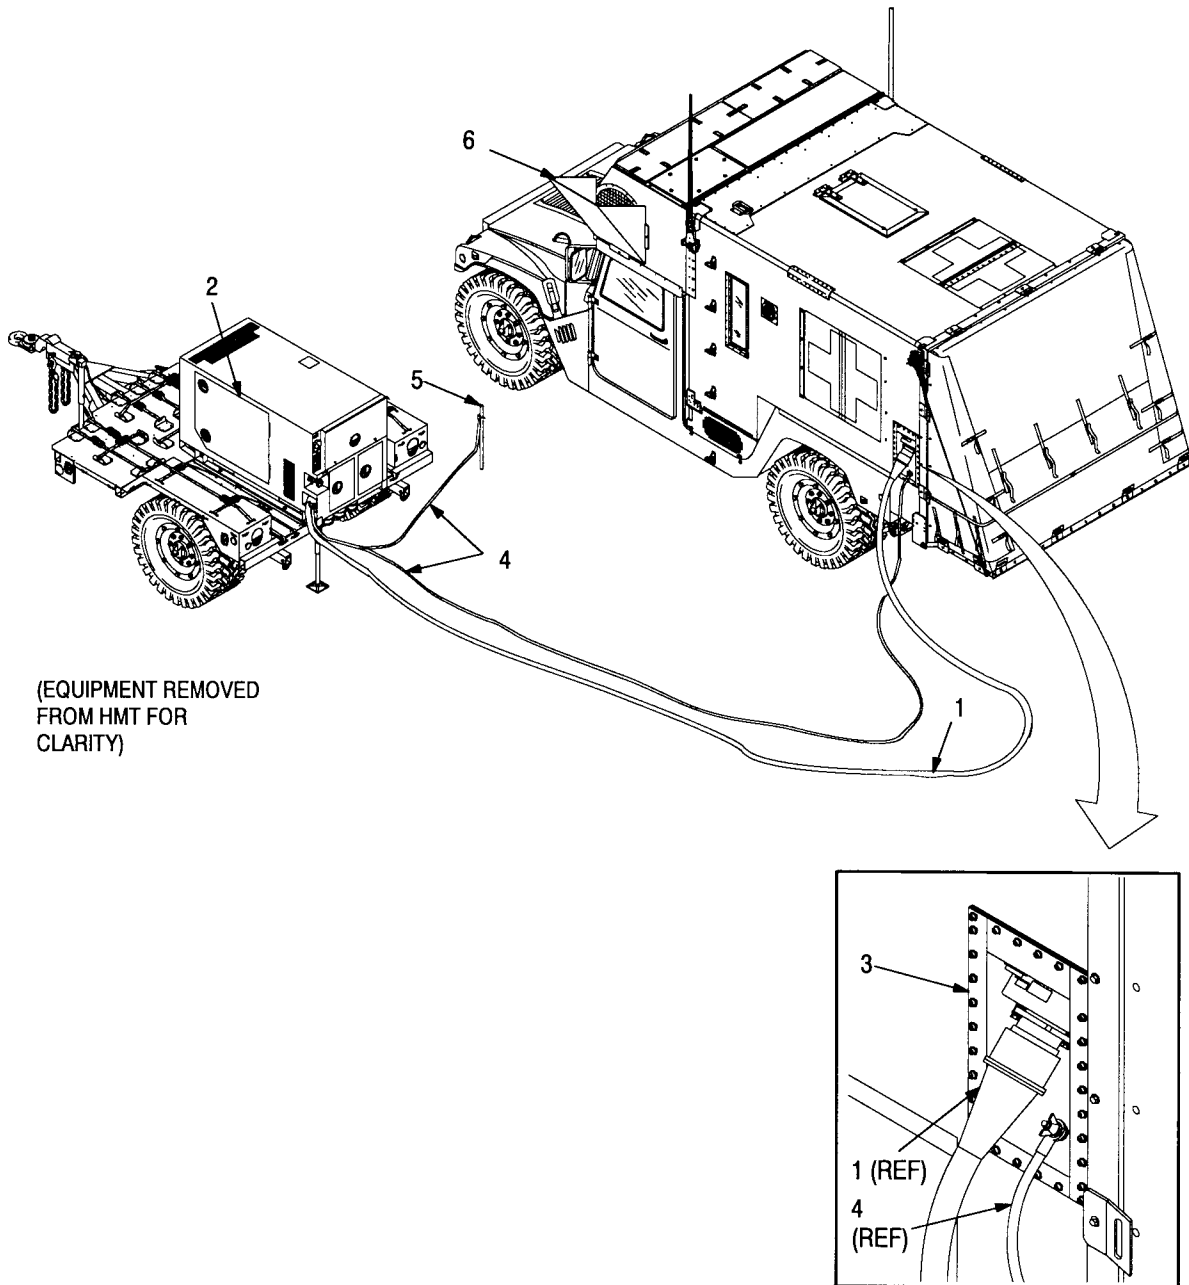

Figure 2-9. Power Cable and Ground Leads
- (2) Remove transport cover from HMT and place on ground, dirty side down, approximately 25 ft behind HMT.
- (3) Install sound deflector (item 6, Figure 2-9) on condenser fan.
- (4) Unload doors, litter, light set, and maintenance stand from HMT and place on transport cover.
- (5) Remove ground stake (5, figure 2-9) from HMT and drive into ground at rear driver side of ECV using slide hammer.
- (6) Connect 10 kW TQG ground lead (4) to ground stake (5) and to LMS power panel (3).